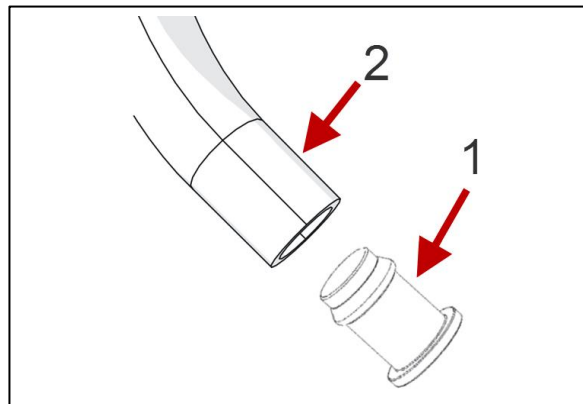

FIGURE 13
17. Insert end plug #400647 (item 1, Figure 13) into the step 15 unplugged hose (item 2, Figure 13).